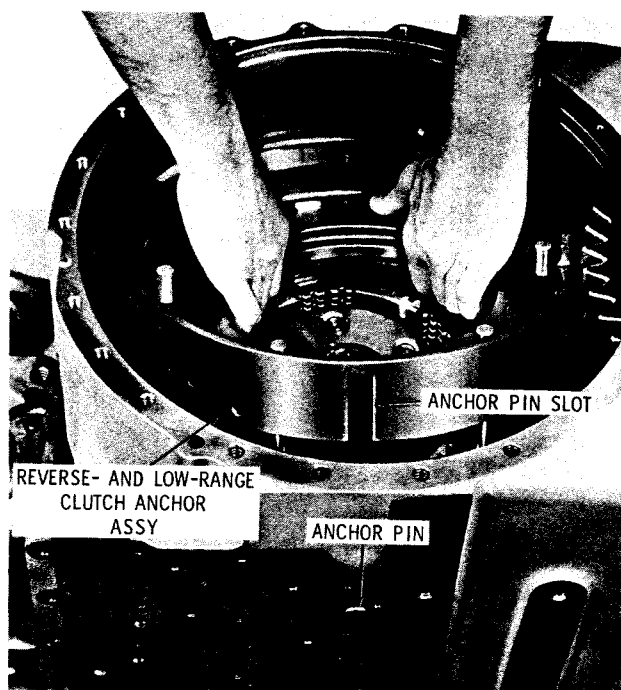

Fig. 5-29. Removing reverse-and-low-range clutch anchor assembly
(1) Remove the reverse-and-low-range clutch anchor assembly (fig. 5-29). Remove the anchor pin from the valve body mounting pad.